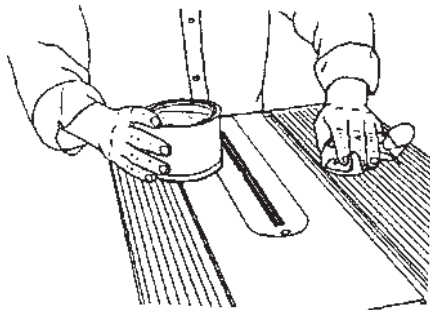

Figure B-31
- the worktable (shown in Figure B-31) and optional extension table surfaces